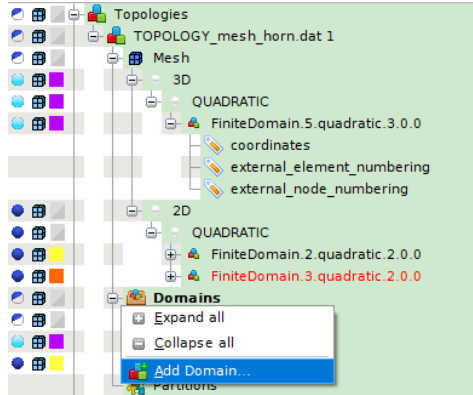

Figure 6.9: Add a new domain using the right-click menu of Domains
- *Create a Domain for the volume: right-click on the "Domains" and select "Add Domain..." (Figure 6.9);*